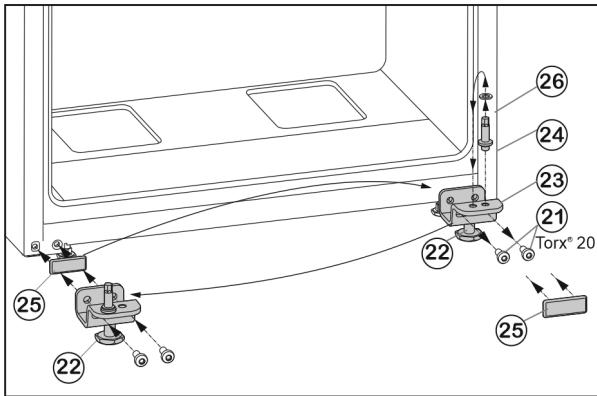

Fig. 9
- ▶ Unscrew fastening screws Fig. 9 (21).
- ▶ Remove the lower bearing block Fig. 9 (23), complete with bearing bolt Fig. 9 (24), washer Fig. 9 (26) and adjustable foot Fig. 9 (22).
- ▶ Unscrew the bearing bolt Fig. 9 (24), complete with washer Fig. 9 (26), re-locate it into the mounting hole on the opposite side of the bearing block and tighten again.
- ▶ Carefully remove the cover plate Fig. 9 (25) and re-locate it to the other side.
- ▶ Screw on the lower bearing block Fig. 9 (23), complete with bearing bolt Fig. 9 (24), washer Fig. 9 (26) and adjustable foot Fig. 9 (22) to the new hinge side, with the help of a cordless screwdriver if necessary, and **tighten (with 4 Nm)** once again.
- ▶ Lower the door from above onto the bearing bolt Fig. 9 (24).
- ▶ Unscrew the adjustable foot Fig. 9 (22) on the lower bearing block Fig. 9 (23) until it touches the floor.